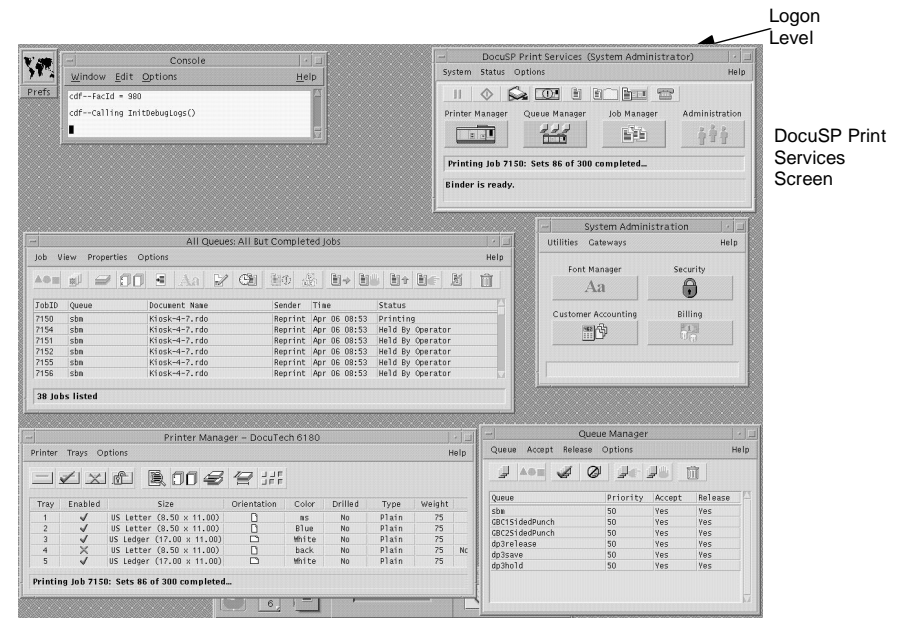

Figure 6-9 DocuSP Monitor Screen
- a) Go to the DocuSP Print Services screen, as shown in Figure 6-9.